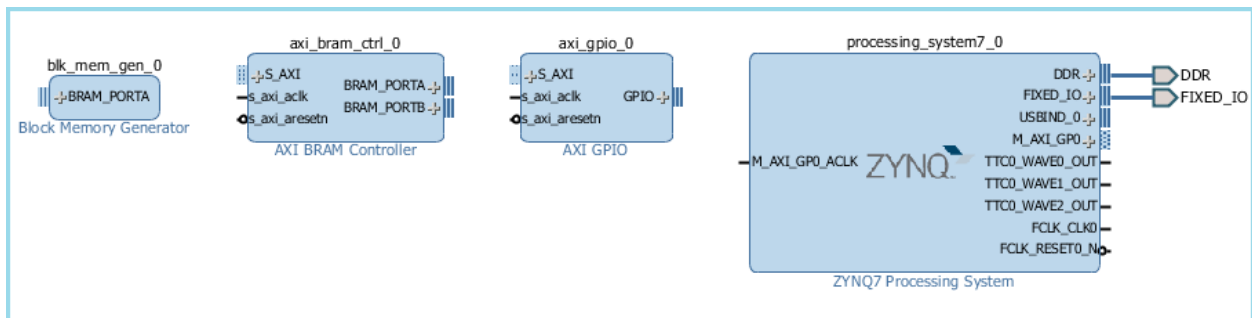

Figure 10: Block Design after instantiating IP.
7. Now you can add peripherals to the processing logic (PL). To do this, right-click the IP Integrator diagram and select **Add IP**.
9. Repeat the action, typing **axi bram** to find the AXI BRAM Controller, and typing **block** to find and add the Block Memory Generator. The Block Design window matches Figure 10. The relative positions of the IP will vary.